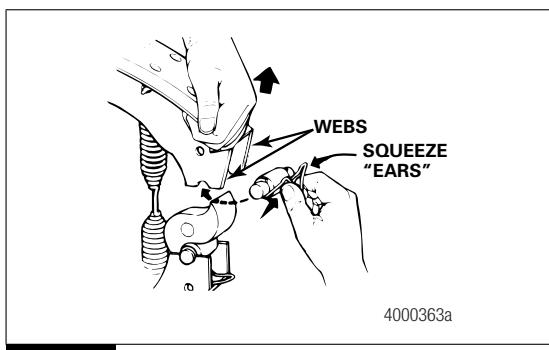

Figure 5.16
- Pull each brake shoe away from the camshaft to enable you to install the brake shoe roller and roller retainer. Press the retainer ears to fit into the retainer between the brake shoe webs. Figure 5.16.